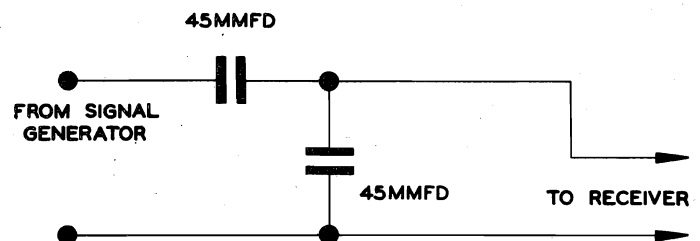

FIG. 12
- 2—Connect the signal generator leads, through the dummy as illustrated in Figure 12, to the antenna receptacle on the receiver.
Schematic of a recommended dummy antenna, closely resembling actual antenna capacity, to be used in series with signal generator leads when aligning the R.F. section of the receiver Fig. 12.